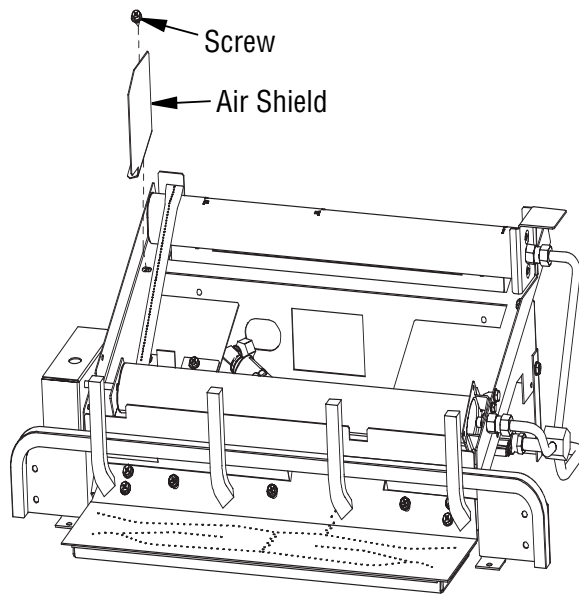

Figure 29 - Removing Air Shield
1. Before placing any logs on the chassis you will need to remove the Air Shield located on the left side near the rear burner as shown in **Figure 29**. The Air Shield is held in place with one screw, remove the Air Shield and place the screw back into the hole in the chassis. Place the Air Shield with you owner's manual and keep.